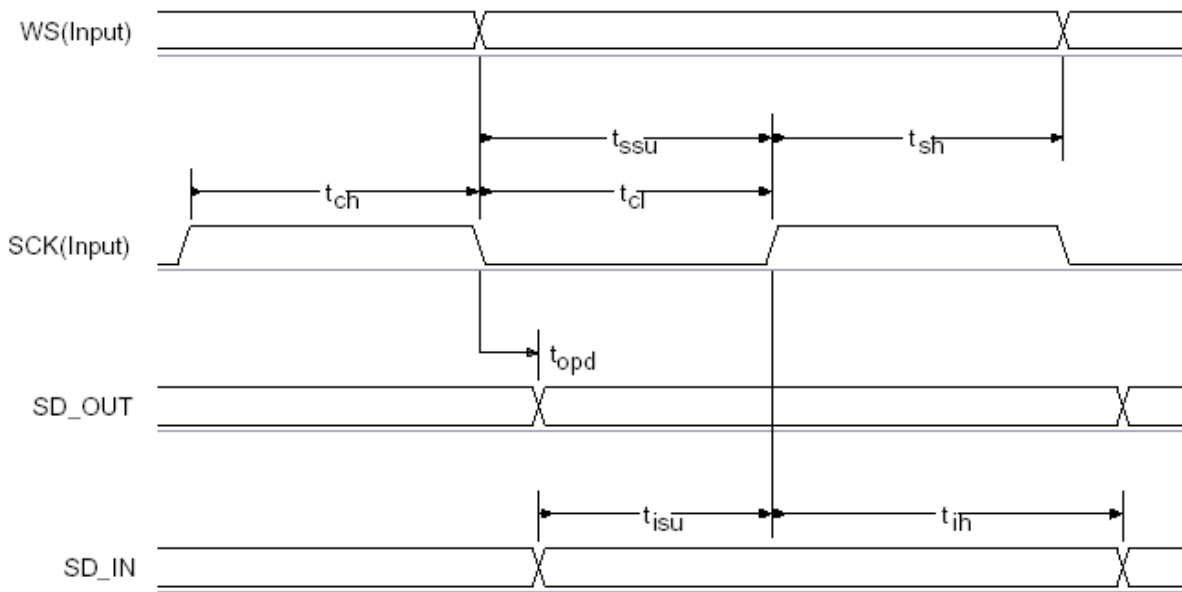

Figure 26: Digital Audio Interface Slave Timing
The digital audio interface supports the industry standard formats for I2S, left-justified (LJ) or right-justified(RJ). The interface shares the same pins as the PCM interface, which means each audio bus is mutually exclusive in its usage. Table 17 lists these alternative functions. Figure 26 shows the timing diagram.